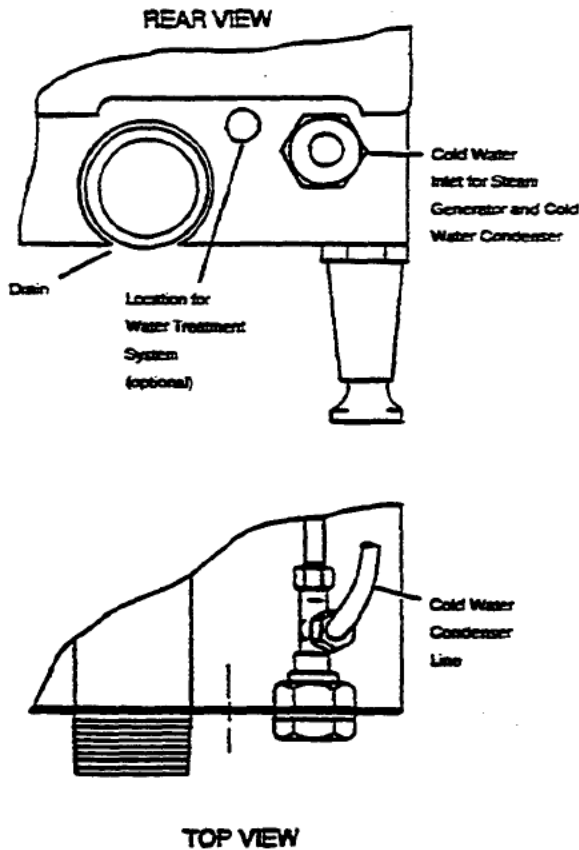

Figure 2-18. Single Water Connection (Untreated)
- If the water supply arrangement does not include a water treatment system; refer to figure 2-18, and verify that the cold water steam generator feed and condenser feed lines are attached to the tee and bulkhead coupling inside the steamer.